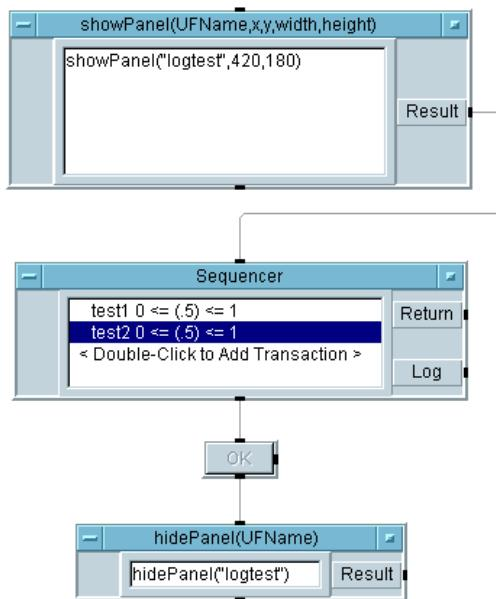

Figure 10-32. Status Panel Program (before running)
6. Select **hidePanel** from the Function & Object Browser box and **Flow \Rightarrow Confirm(OK)**. Change the **hidePanel()** parameter to **logTest**. Delete the input pin. Connect the objects as shown in Figure 10-32.